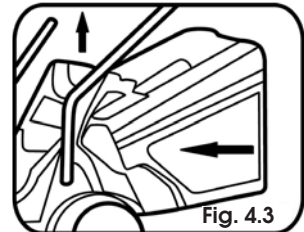

Fig. 4.3
- ✿ To seat the grass catcher on to the lawnmower, it is first necessary to lift the rear safety grass catcher cover. Figure 4.3